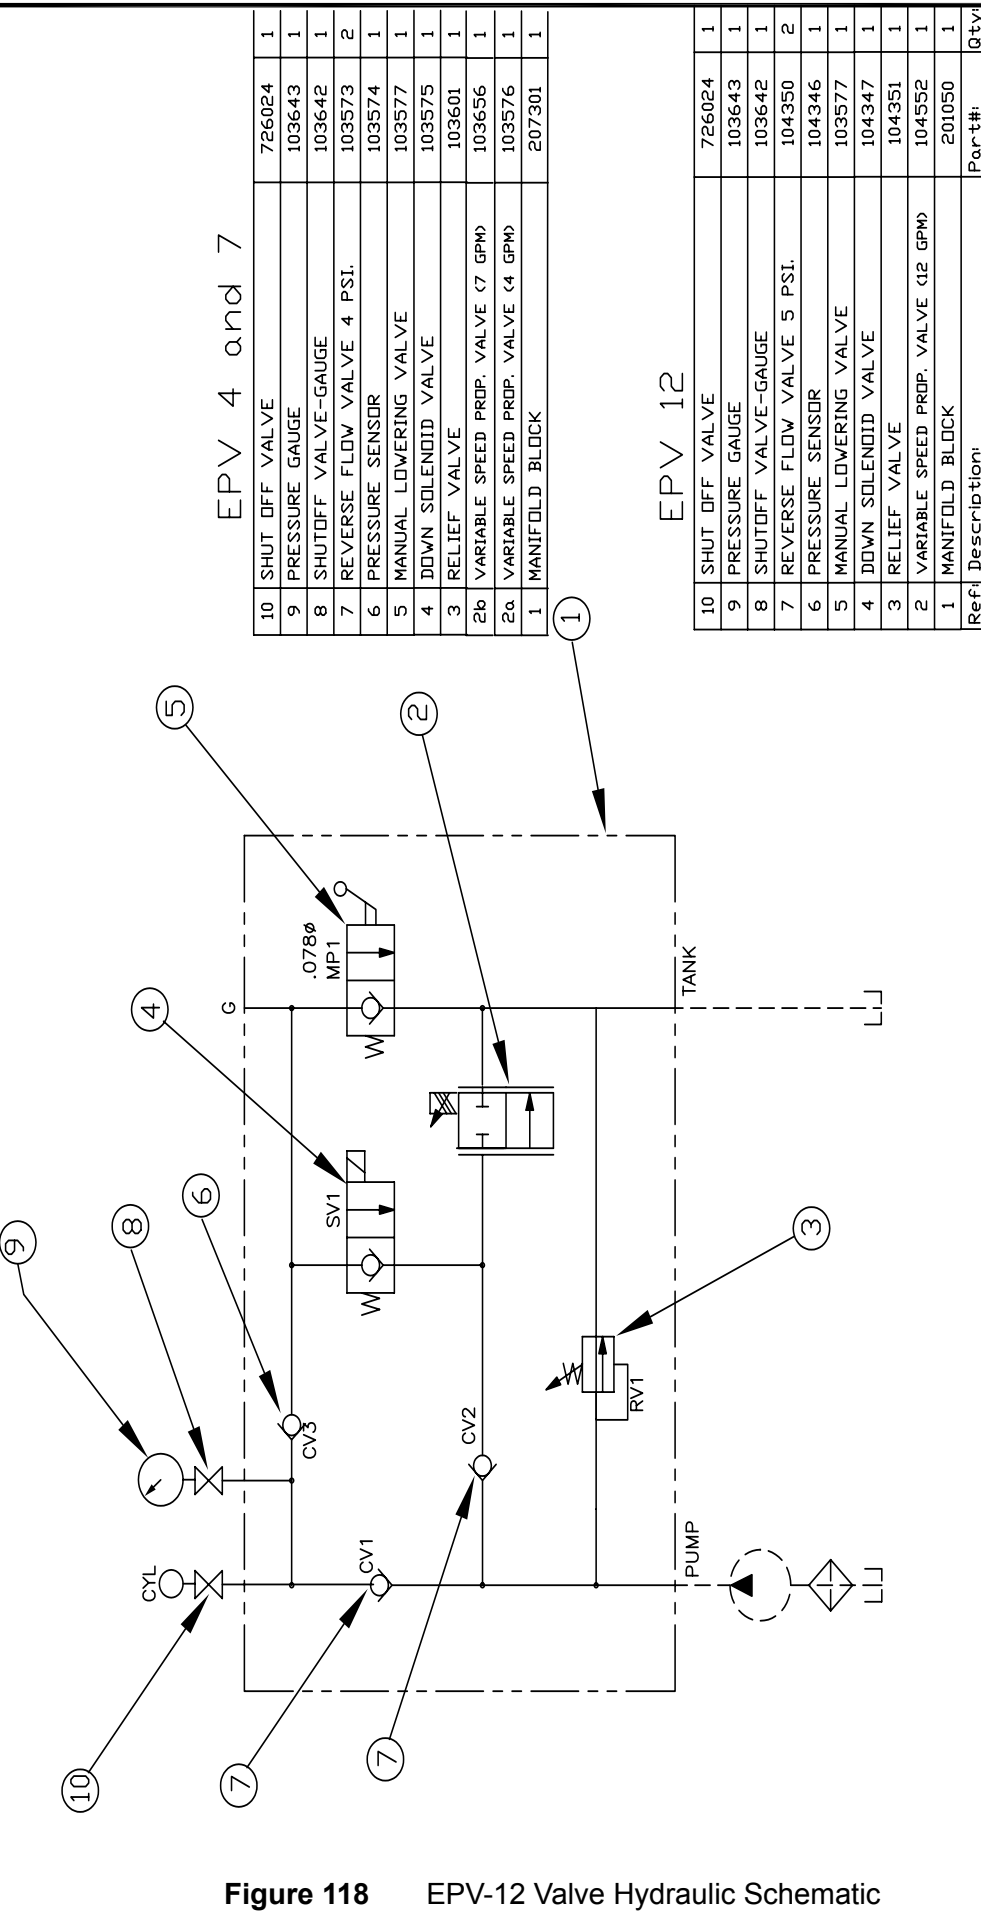

**Figure 117** EPV-12 Variable Speed Valve
- 1) Loosen the lock nut. Figure 117 K.